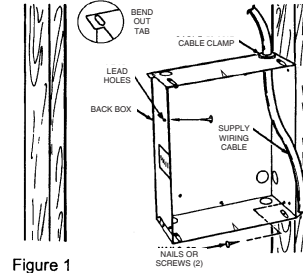

Figure 1
1. Determine which side of the back box is to be mounted against a stud and bend the tabs at the rear corners out 90 degrees so that the back box will be square with the stud after installation. (See Figure 1).
3. Position back box against side of studs and secure using nails or screws as shown in Figure 1.
**NOTE:** Lead holes for a #8 sheet metal screw have been provided in the sides of the back box. After the finished wall or ceiling has been put up, drive a # 8(m4) sheet metal screw (recommended 1" long) through the side of the box not mounted to the stud. This will prevent the back box from pulling out when installing the heater assembly. (See Figure 1)